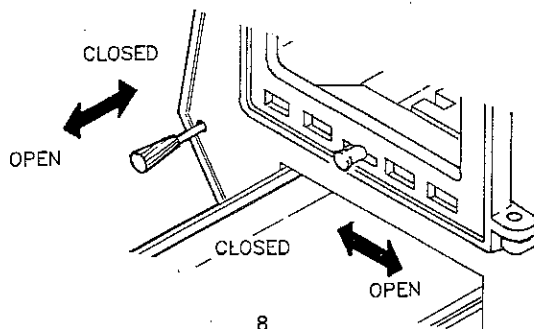

FIG. 8
1. Set air slide on door and air wash slide to 'Open' position for maximum draft (see Fig. 8).
2. Open bypass by turning level at rear of heater as shown (Fig. 8).